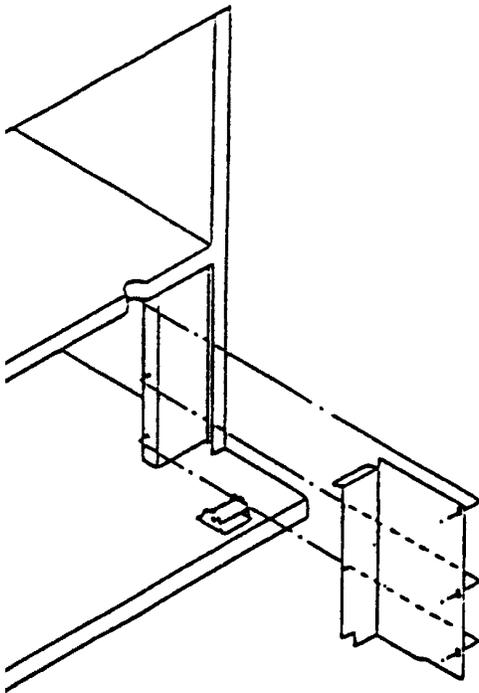

Figure 3
1. On Williston built venders 0001-6000 to 1083-6030, install side condenser baffle (491,040,05x.x3). See figure 3, page 7.
2. On Ranson built venders with new style (4" wide) base boxes, install new right hand baffle (804,800,66x.x1) and secure. See figure 3, page 7.